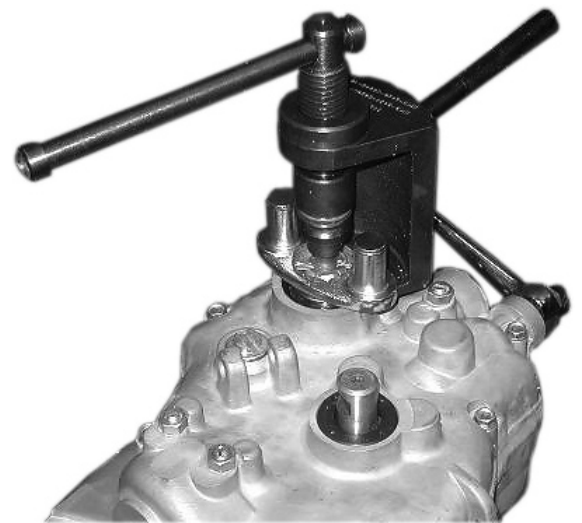

Fig. 47.
- Uncotter the castellated nut of the main shaft, undo the nut and remove the washer and driving flange of the propeller shaft flexible coupling using tool 346-710 (Fig. 47).
- Remove the flexible coupling plate (Fig.47);